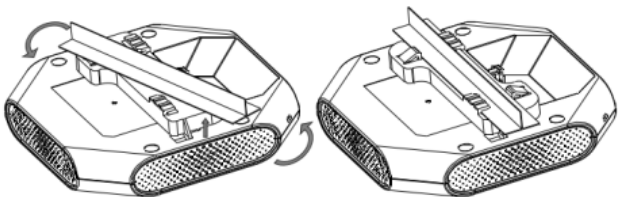

Figure 4: Attaching Ceiling Mounting Bracket
- Place the bracket against the back of the AP, insert by aligning the slot on the backside with the hanging feet on both sides of the bracket (see Figure 4) .
- Push the bracket along the direction of the arrow until it locks in the slot (see Figure 4).